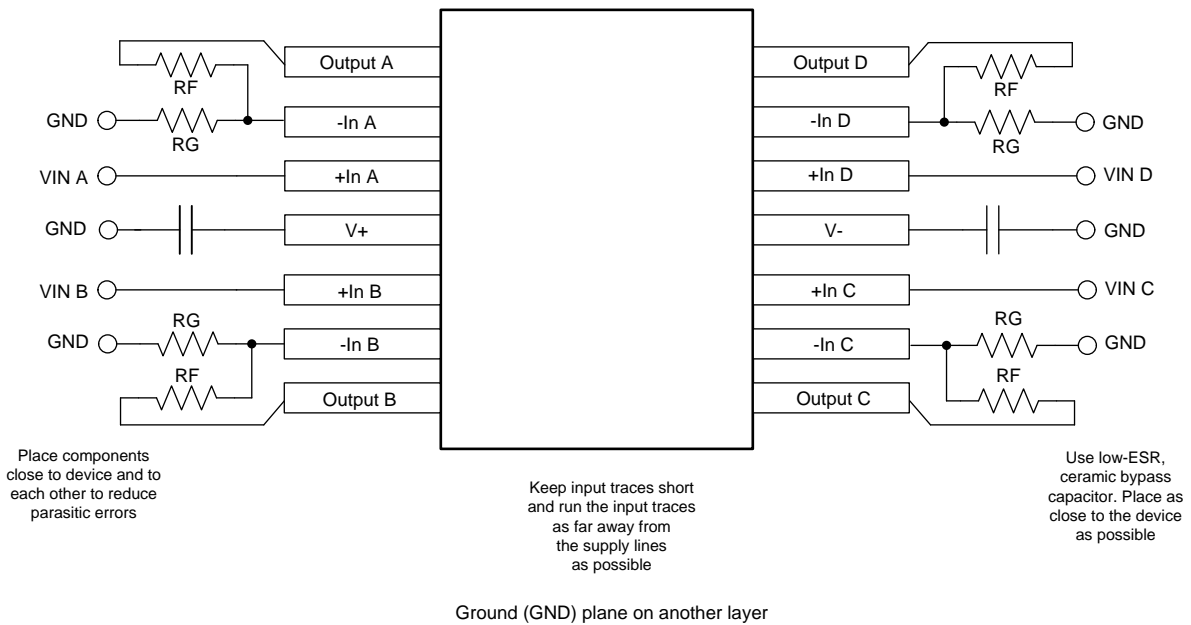

Figure 48. OPA4188 Layout Example
- Place the external components as close to the device as possible. As shown in Figure 48, keeping RF and RG close to the inverting input minimizes parasitic capacitance.